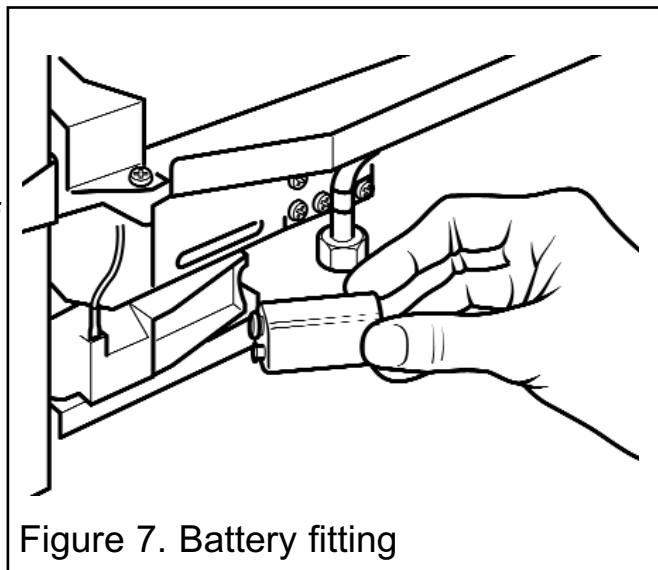

Figure 7. Battery fitting
- Fit the new battery firmly to the connections on the ignition block (See figure 7).